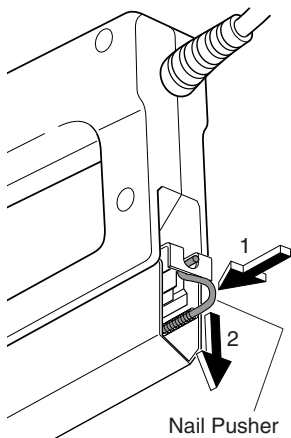

Figure 2
3. Remove nail pusher from nail chamber. Access nail pusher at rear of nail chamber. Push end of nail pusher in and down to release it (see Figure 2). Pull nail pusher from nail chamber (See Figure 3).